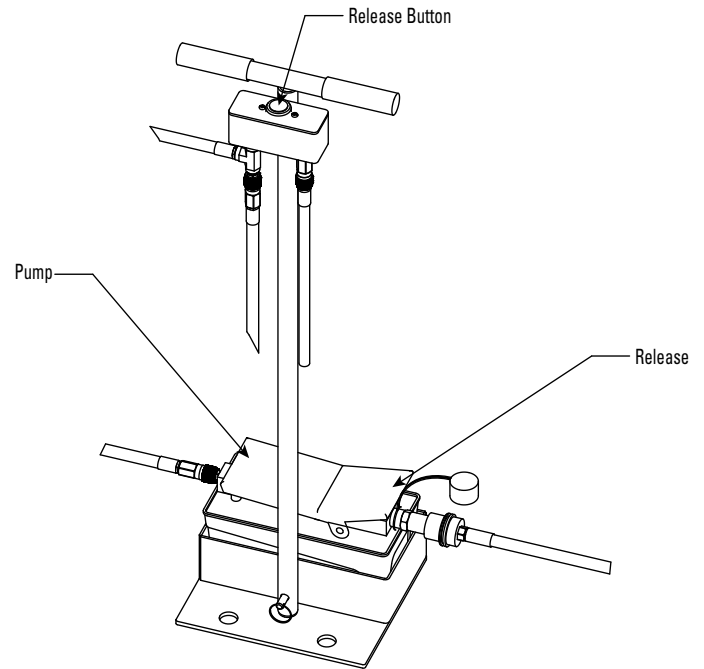

Figure 44
6. Disengage the Safety Latch by pressing the Release Button on the Air Valve on the Pump Stand (see Figure 44).
7. Lower the vehicle by pressing the release portion on the pedal of the Lift Pump until the vehicle starts to make contact with the Wheel Stands (see Figure 44).
9. Lower the lift completely by pressing the release portion on the pedal of the Lift Pump (see Figure 44).